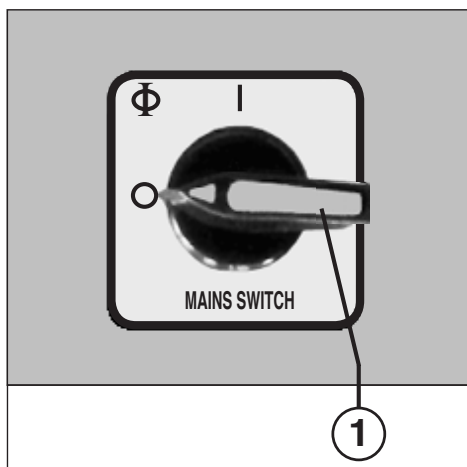

Fig. 1
Be certain that the machine is turned off overnight (mains switch (1) (fig. 1) switched to „0“).